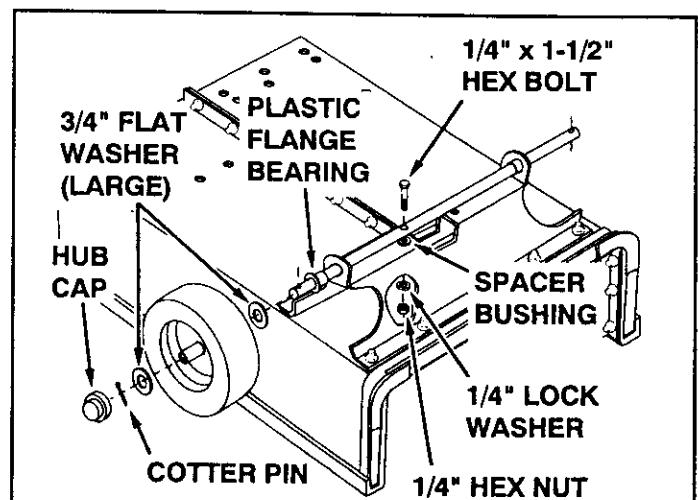

FIGURE 4
- Assemble the two plastic flange bearings to the wheel support as shown in figure 4.
- Assemble the axle through the wheel support and the bearings as shown in figure 4.
- Fasten the axle to the wheel support using a 1/4" x 1-1/2" hex bolt, the spacer bushing, a 1/4" lock washer and a 1/4" hex nut. See figure 4.
- Assemble a large 3/4" flat washer, a wheel, another large 3/4" flat washer and a cotter pin to each end of the axle as shown in figure 4.
- Assemble a hub cap over the 3/4" flat washer on each end of the axle as shown in figure 4.